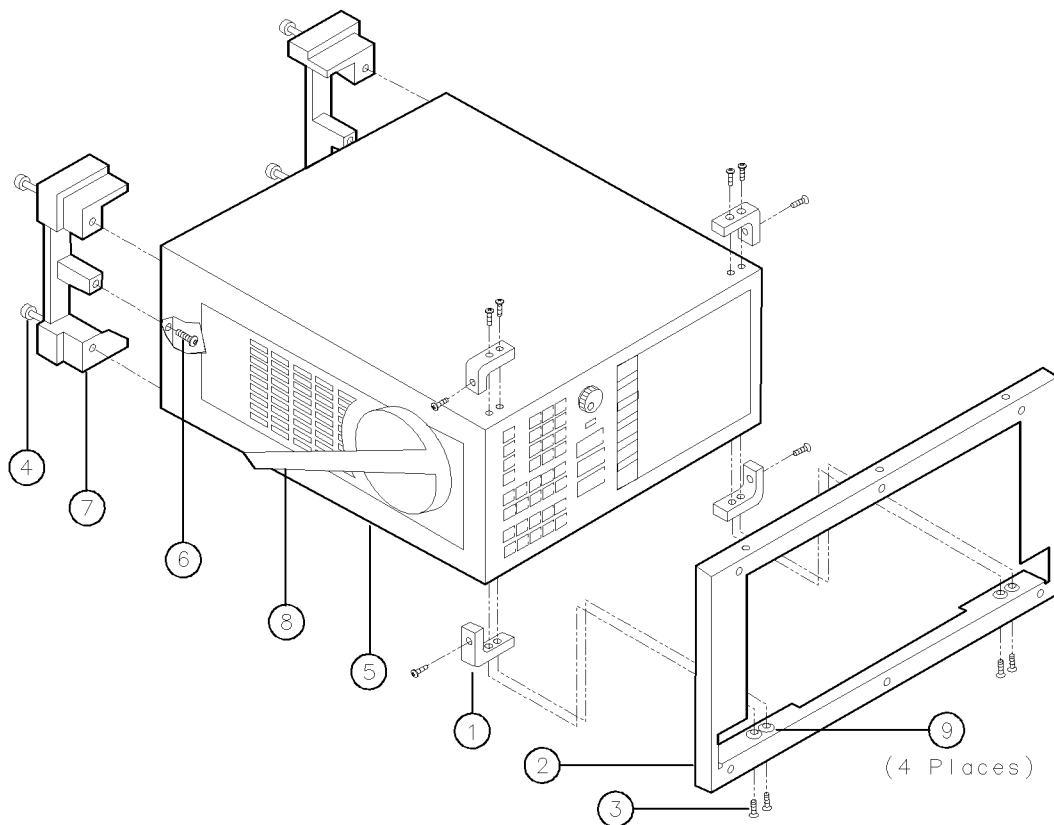

Figure 1. Installing the Rack Kit Subpanel
1. Remove the instrument's four front frame bumpers ①. See Figure 1.
2. Place the kit's subpanel ② face down on a clean flat surface such as a desk top.
3. Place the instrument face down into the subpanel. Be sure to orient the instrument in relation to the subpanel mount holes ⑨ as illustrated in Figure 1.
4. Attach the subpanel to the top of the instrument's front frame using four M3 8 mm pan-head screws ③. The screws mount into the front bumper mounting holes.
5. Use a 4-mm hex key to unscrew the four screws ④ attaching the instrument cover assembly ⑤ to the instrument. Pull the cover assembly off to the rear of the instrument.
6. Remove the two screws ⑥ attaching the rear feet ⑦ to the cover assembly and remove the rear feet.